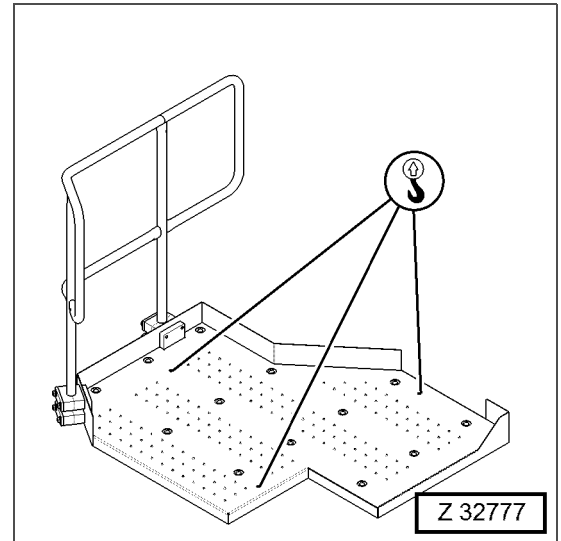

Fig. 3-461 Suspension points
4. Insert three swivel hoist rings into the marked locations at the fuel tank platform (front) (Fig. 3-461).